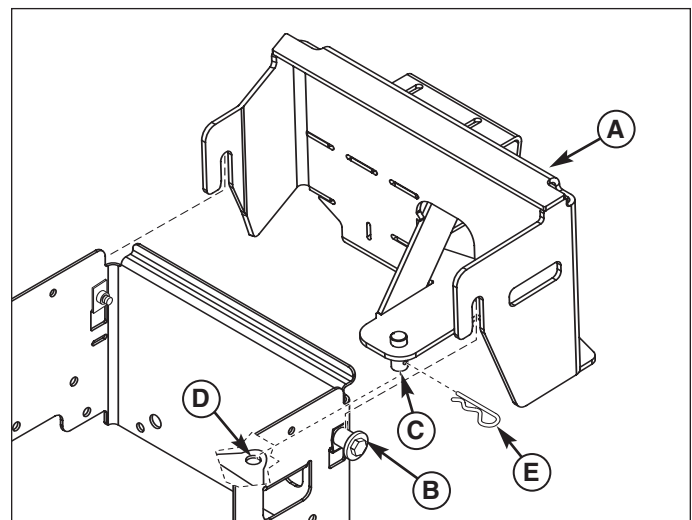

Figure 2. Hitch Installation
4. Slide the hitch (A, Figure 2) on right side and left side shoulder bolts (B) while sliding post (C) into hole (D) as shown. Secure with hair pin (E).